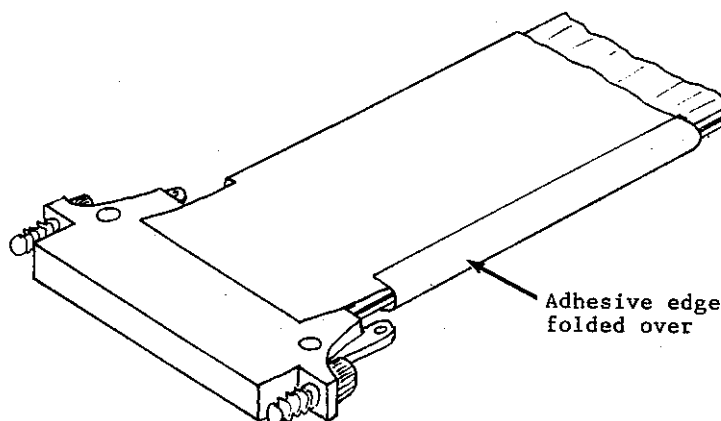

Figure 7-10. Adhesive Edge of Shield Folded Over
8. Remove the release paper from the adhesive strip and fold the adhesive edge of the shield over so that it sticks to the shield along the full length of the cable (Figure 7-10).